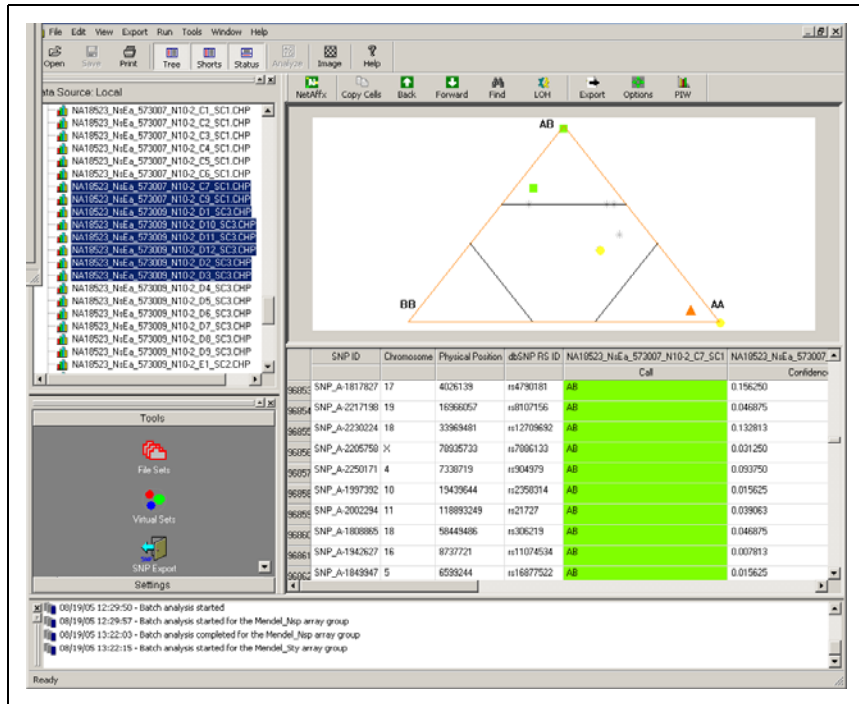

Figure 7.3
Following analysis, .chp files are generated for each sample. The .chp files can be opened by double-clicking on the files in the GTYPE data file tree. Multiple .chp files can be opened simultaneously. Once opened the .chp files will display a Dynamic Model (DM) scatter plot in the upper portion of the window and a data table in the lower portion of the window as shown in Figure 7.3. In the data table a genotype call for each SNP along with a confidence score is displayed.